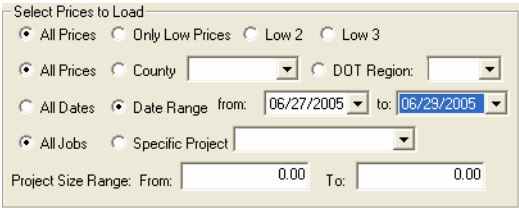
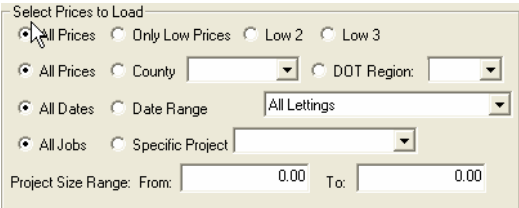

Figure 2.16
Figure 2.17
This option allows you to load prices and calculate averages from a specific letting or range of lettings. There are three types of date ranges you can enter: (1) all dates, (2) specific dates (i.e. starting and ending dates) as shown in Figure 2.16 or (3) pre-defined date ranges (i.e. last 6 months, last year, etc.) as shown in figure 2.17
After pressing the LOAD option, you will have the option to print out the information shown in Figure 2.17. Hit Print to see the report and you can then print it out.